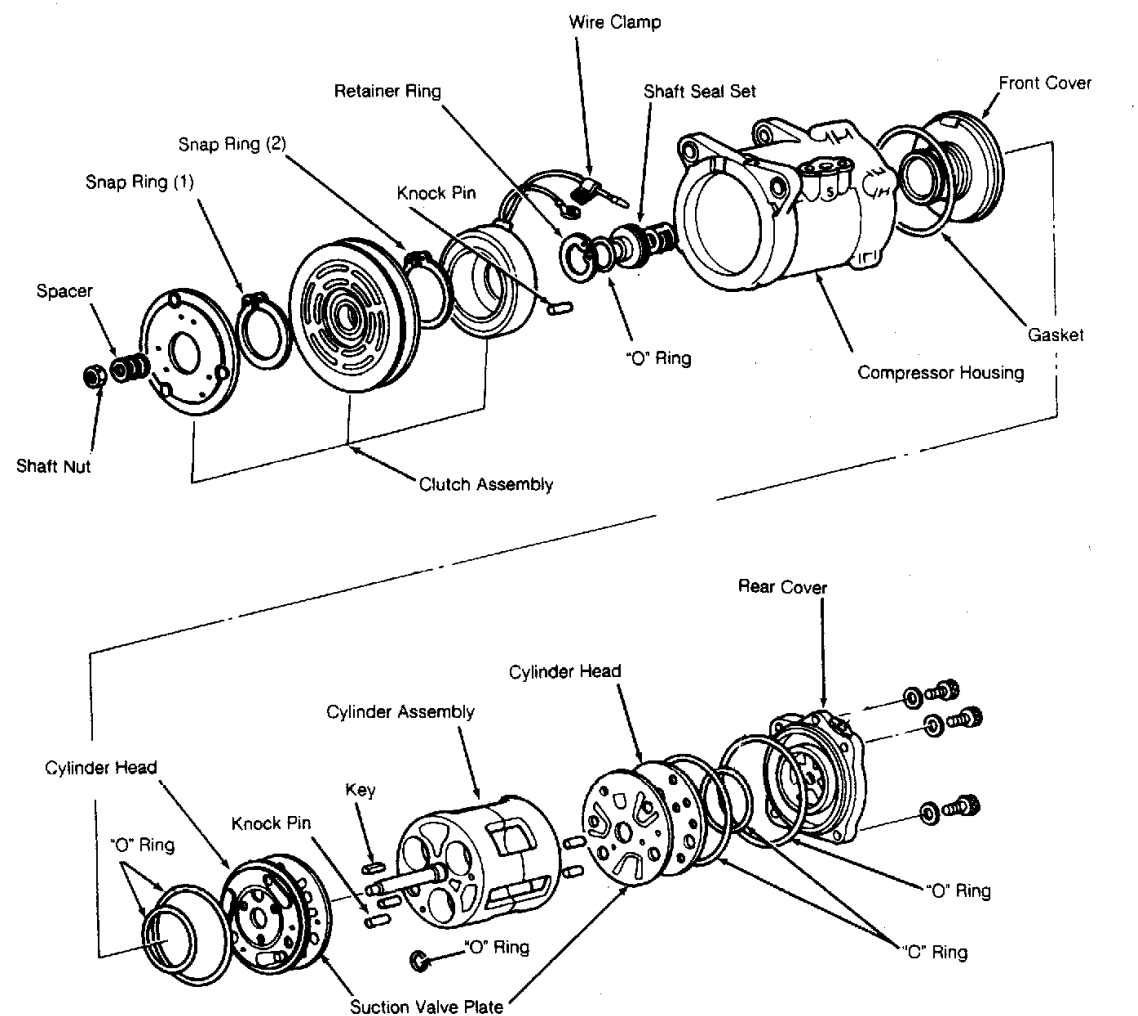

Fig. 9: Hitachi 6-Cylinder Compressor (5-Cylinder Similar)
3. Remove clamping screws that secure coil assembly leads. Remove inner snap ring from coil assembly. Remove coil assembly from front cover. See Fig. 9.